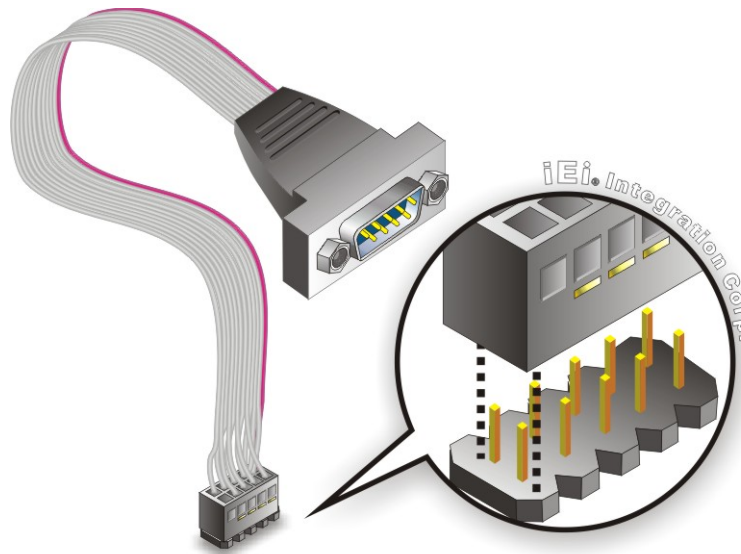

Figure 4-8: Single RS-232 Cable Installation
Step 2: Insert the cable connector. Insert the connector into the serial port box header. See **Figure 4-8**. A key on the front of the cable connectors ensures the connector can only be installed in one direction.